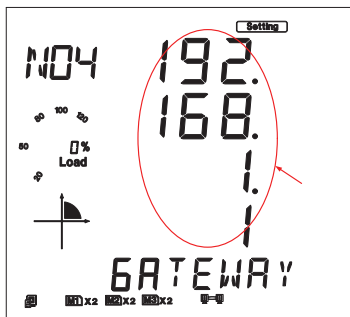

Fig 5-32
6. Set Gateway in the fourth setting page, such as 192.168.1.1. Press the "V/A" key to go to the setting page. Users may set the parameters pointed out in Figure 5-32. The cursor starts at the first digit. After setting the Gateway, press the "V/A" key to accept. Press the "P" key to go to the fifth setting page for DNS Primary Server.